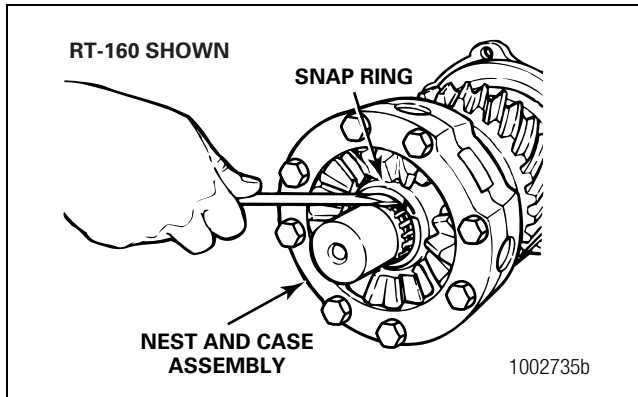

Figure 3.31
3. Remove the snap ring that fastens the inter-axle differential assembly to the input shaft. Remove the inter-axle differential assembly from the input shaft. Figure 3.31.